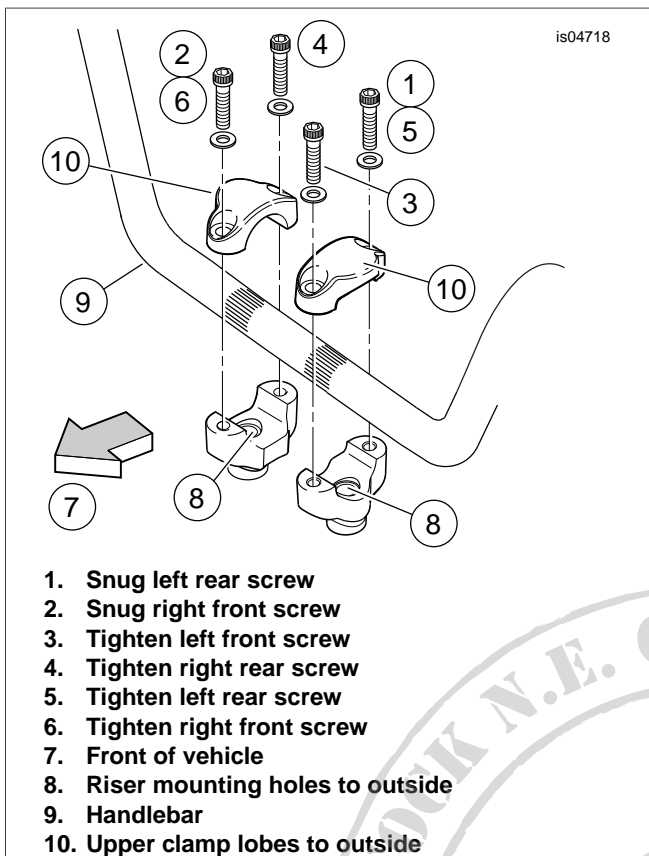

Figure 6. Handlebar and Clamp Assembly to Risers
1. See Figure 6. Position each riser with the mounting hole (8) to the outside as shown.
11. See Figure 6. Tighten the upper handlebar clamp screws as follows:
- a. Tighten the left side rear screw (1) until the left side handlebar clamp makes contact with the rear of the handlebar riser.
- b. Tighten the right side front screw (2) until the right side handlebar clamp makes contact with the front of the handlebar riser.
- c. Tighten the left front screw (3) to 12-16 ft-lbs (16.3-21.7 Nm).
- d. Tighten the right rear screw (4) to 12-16 ft-lbs (16.3-21.7 Nm).
- e. Tighten the left rear screw (5) to 12-16 ft-lbs (16.3-21.7 Nm).
- f. Tighten the right front screw (6) to 12-16 ft-lbs (16.3-21.7 Nm).